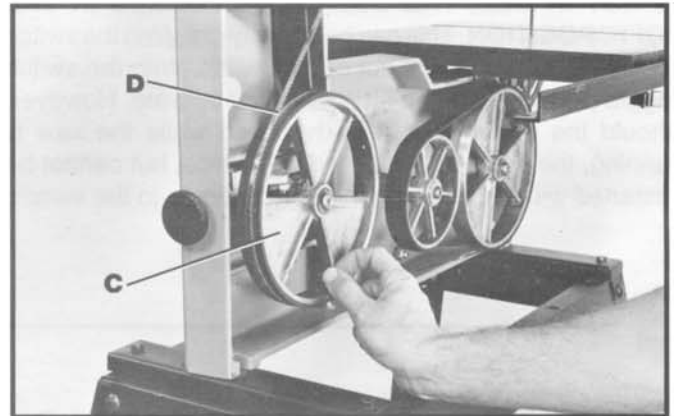
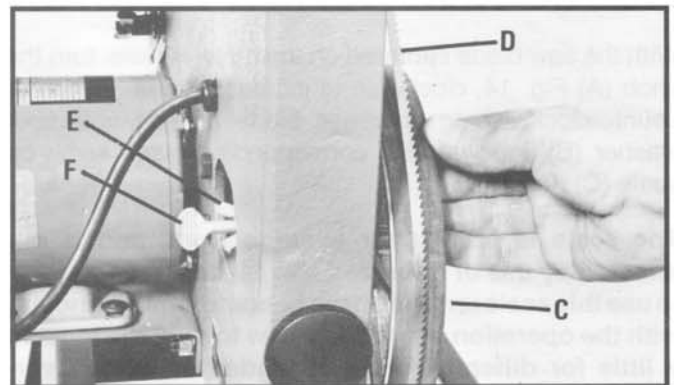

Fig. 16
Fig. 17
5. Turn the rear wheel (C) Figs. 16 and 17 slowly by hand to determine if the blade (D) is riding on the center of the wheel as shown in Fig. 17.
6. If the blade is not riding on the center of the wheel, loosen wing nut (E) Fig. 17, and while turning the rear wheel by hand, turn the thumb screw (F) Fig. 17, slightly clockwise or counterclockwise. You will notice that the saw blade will move to the right or the left on the wheel. Never run the saw to track the blade with the front cover removed.
7. When the blade is riding on the center of the rear wheel, tighten wing nut (E) Fig. 17.